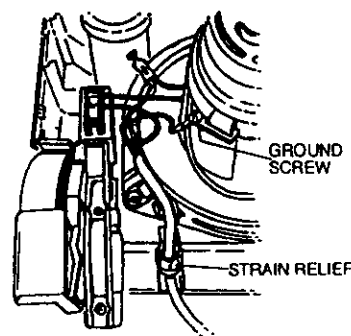

Fig. 20
**Note:** Upon reassembly, route cord as shown in Fig. 20. Also, it is very important to reconnect the ground lead.